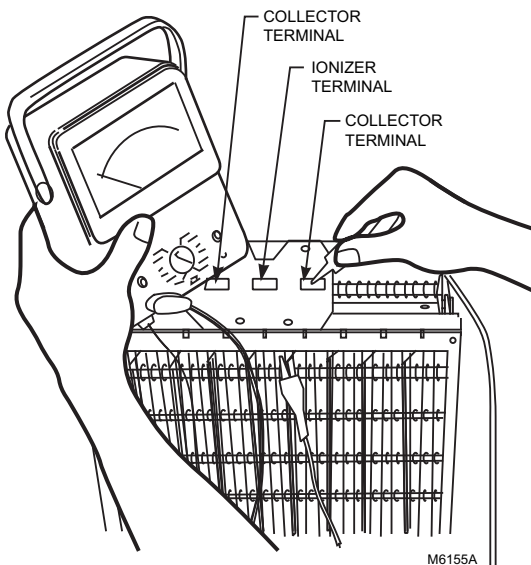

Fig. 17. Use an ohmmeter to check electronic cell(s) for short circuits.
1. Hook the eyelet on one end of the wire over the spring-connector on one end of the cell. See Fig. 17. Be careful to avoid damaging the spring connector or other parts of the cell.